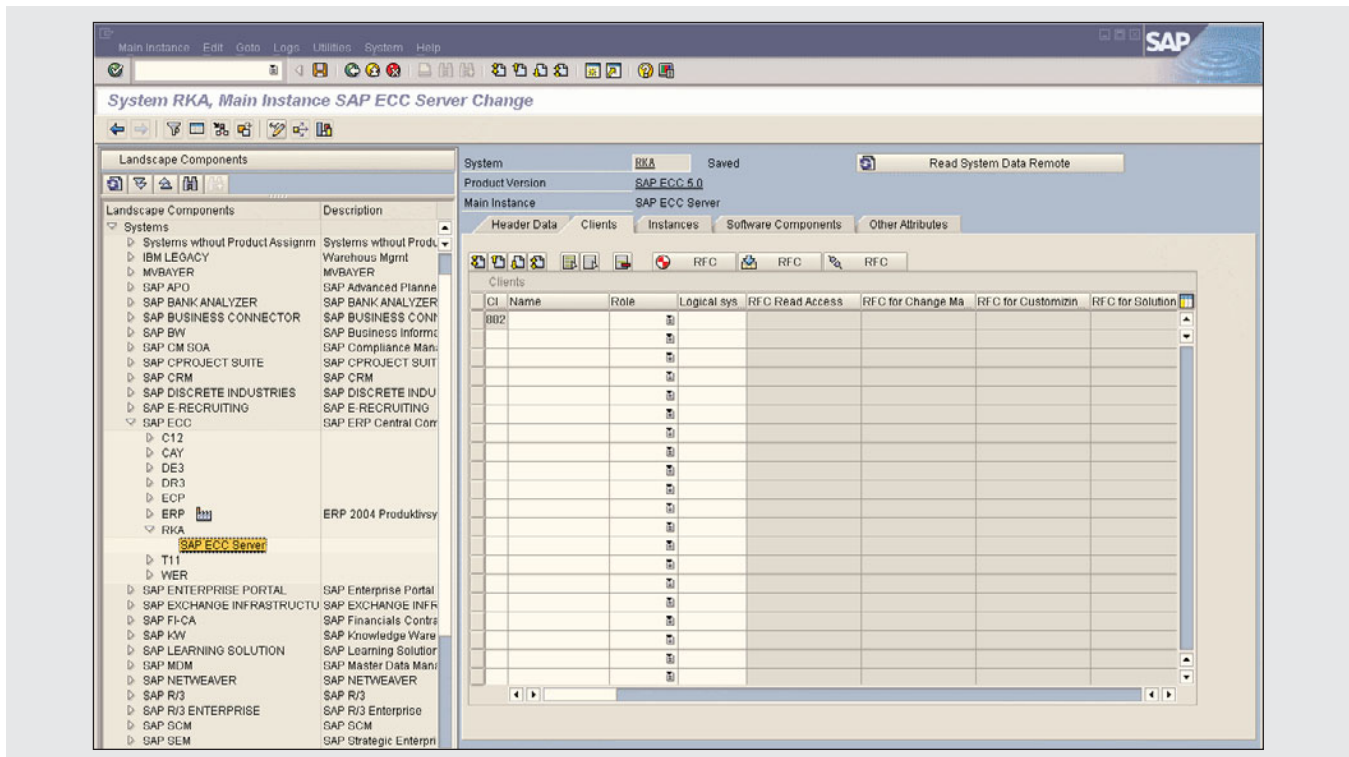

Figure 12 Enter a client from which to retrieve system data
3. Switch to the Clients tab (see **Figure 12**) and enter a client number for retrieving system data in the first column of the Clients table (802 in the example).
1. On the Clients tab (see Figure 12), select the client for which you would like to generate the RFCs. In the example, we selected client 802 of our example development system RKA.